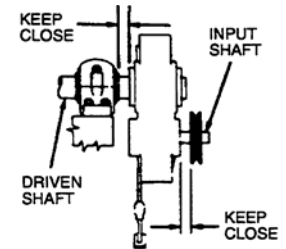

Fig. 2
4. Install sheave on input shaft as close to reducer as practical. (See Fig. 2.)